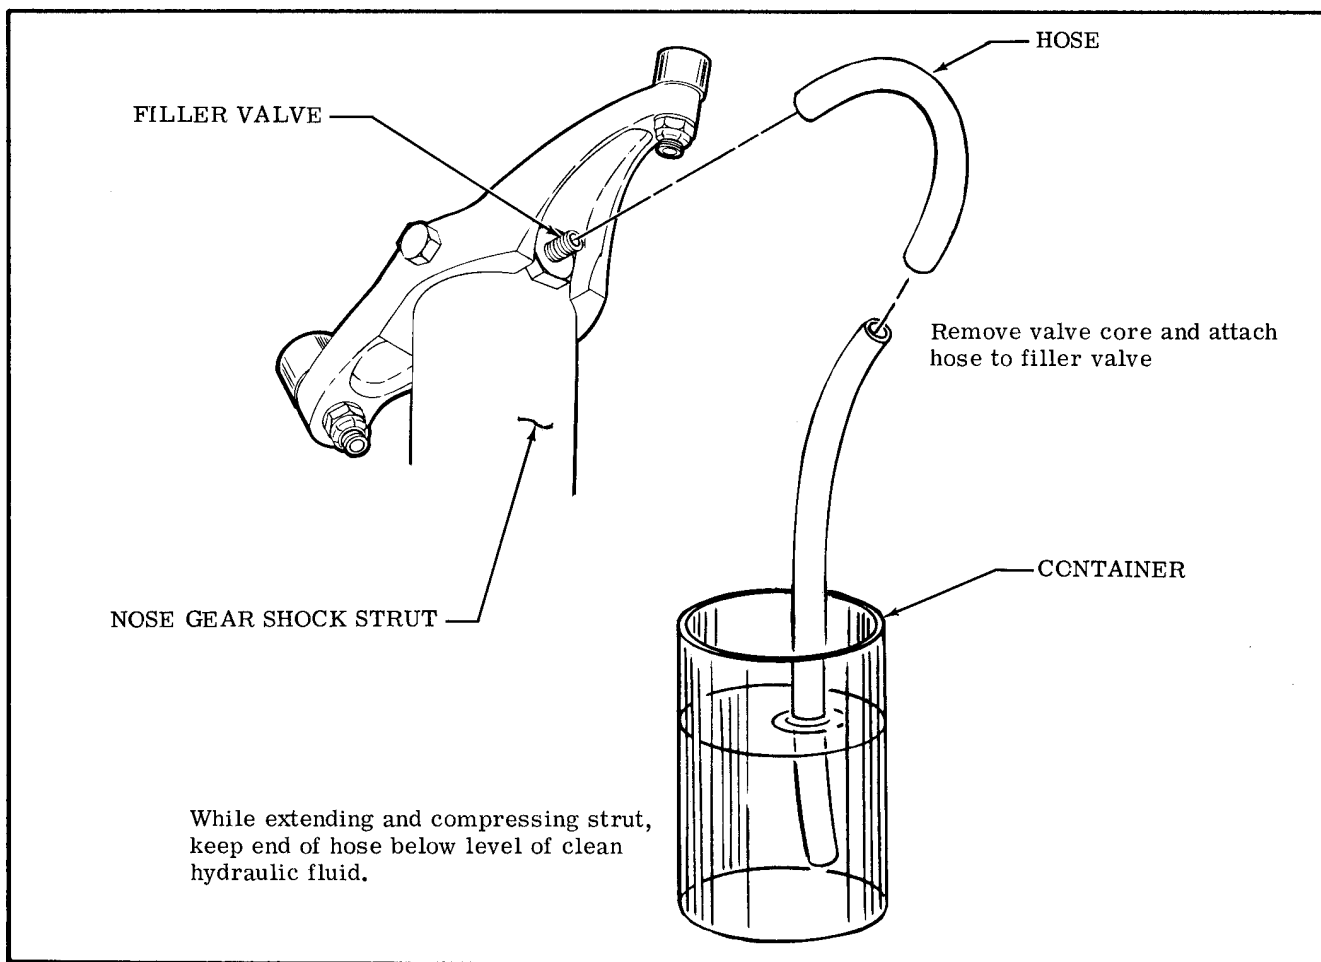

Figure 2-4. Filling Nose Gear Strut
- b. Remove valve core and attach hose and container as shown in figure 2-4.